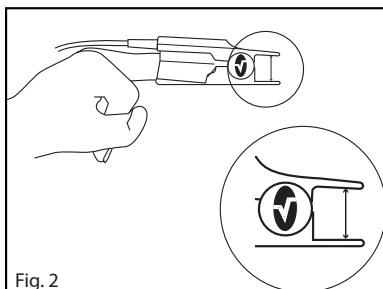

Fig. 2
2. Refer to **Fig. 2**. The hinged tabs of the sensor should open to evenly distribute the grip of the sensor along the length of the finger. Check position of sensor to verify correct positioning. Complete coverage of the detector window is needed to ensure accurate data.